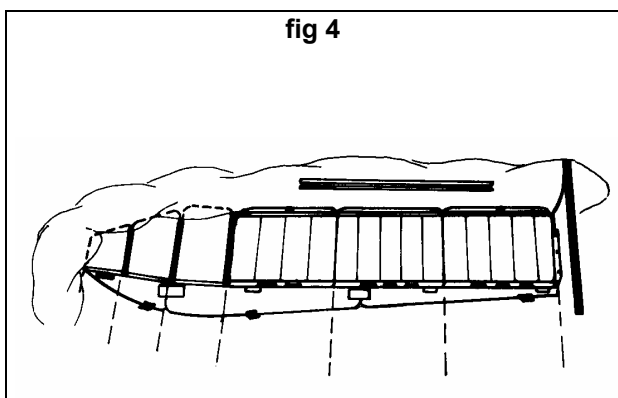

fig 5
7. **Flatten** the apex by standing on it (in the boat) and pulling the lifelines to prevent the fabric being pinched [fig. 5].